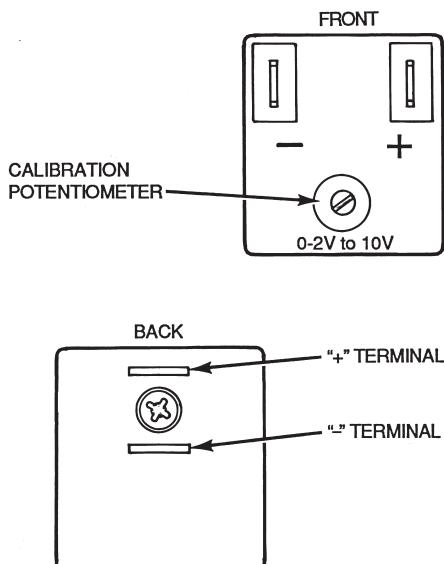

Fig. 17 — Adapter Connections
- On the back of the adapter, there are two slots that accept 1/4-in. male quick-connect terminals. See Fig. 17. Using field-supplied wire, connect the (+) terminal on the back of the adapter to P1 on the logic module. Connect the (-) terminal on the back of the adapter to terminal P on the logic module.
The adapter is factory-set to begin modulating the actuator open from the fully closed position at 2.4 vdc and closed from the fully open position at 9.8 vdc, with the calibration potentiometer (Fig. 17) set at the midrange position. The potentiometer can be used to adjust the minimum damper position. Turning the potentiometer counterclockwise increases the damper's minimum position setting; turning the potentiometer clockwise decreases the minimum position setting.